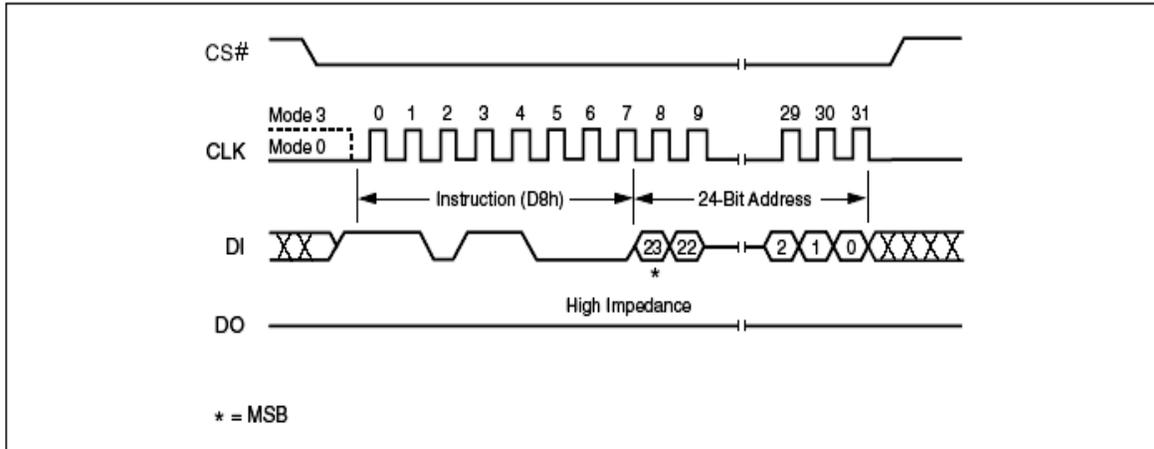

Figure 30. 64K Block Erase Instruction Sequence Diagram
The instruction sequence is shown in Figure 30. Chip Select (CS#) must be driven High after the eighth bit of the last address byte has been latched in, otherwise the Block Erase (BE) instruction is not executed. As soon as Chip Select (CS#) is driven High, the self-timed Block Erase cycle (whose duration is  $t_{BE}$ ) is initiated. While the Block Erase cycle is in progress, the Status Register may be read to check the value of the Write In Progress (WIP) bit. The Write In Progress (WIP) bit is 1 during the self-timed Block Erase cycle, and is 0 when it is completed. At some unspecified time before the cycle is completed, the Write Enable Latch (WEL) bit is reset.